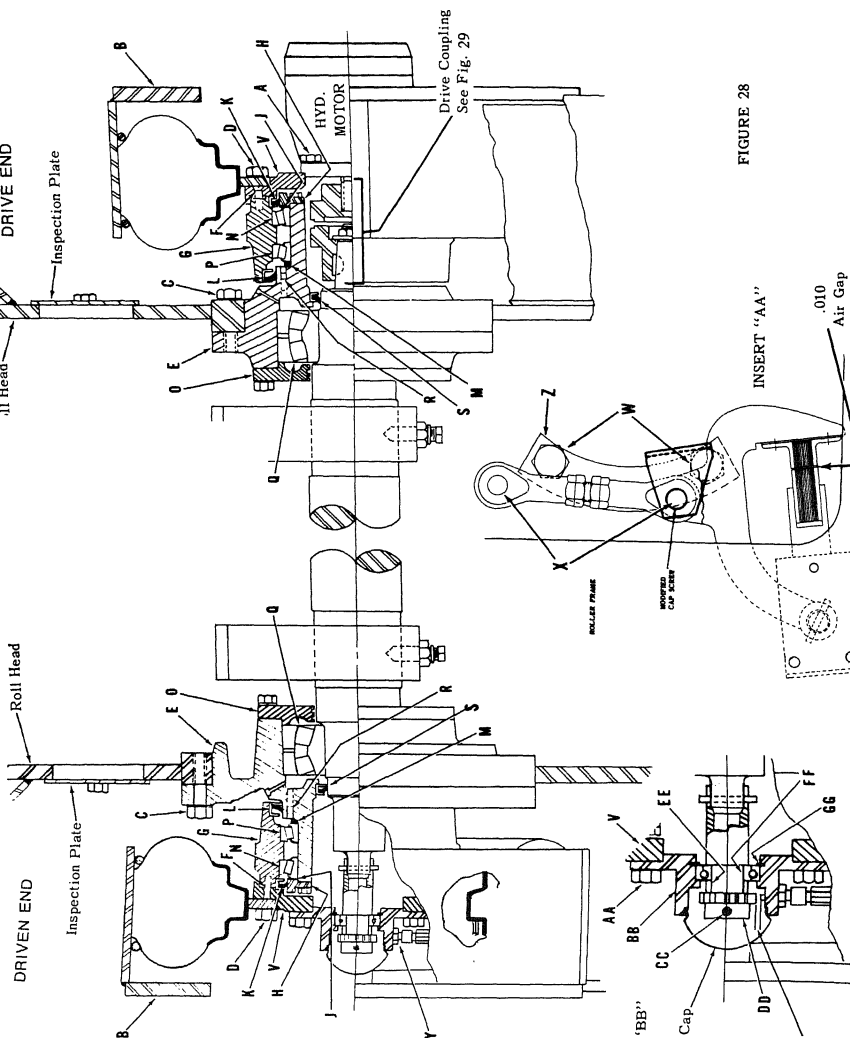

FIGURE 28
A. ROLLER AND ISOLATOR (TIRE) REMOVAL FOR ACCESS TO VIBRATOR SHAFT BEARINGS AND SEALS (Fig. 28). ALSO REFER FOLLOWING "STEP B".
B. VIBRATOR SHAFT BEARING AND SEAL REPLACEMENT (Fig. 28)
14. (Fig. 28) Remove four $\frac{3}{8}$ " x 1" flat head machine screws (F) and remove wheel flange (V) from wheel hub (G).
15. Six $\frac{3}{8}$ " x 1 $\frac{1}{4}$ " cap screws with tab locks hold the bearing carrier ring (H) to roll hub (E). Flatten tab locks and remove cap screws to remove bearing carrier ring. Also remove shims immediately behind the bearing carrier ring.
16. Remove wheel hub (G) from roll hub (E). With the wheel hub, seals (L) and (K), cup of bearing (P) and bearing (N) will be free of roll hub (E). Pull cone of bearing (P) off roll hub and remove spacer (M).
17. Seals (L) and (K) may now be removed from wheel hub, and cones of bearings (P) and (N).
18. Remove eight $\frac{1}{2}$ " x 1 $\frac{1}{2}$ " self-locking cap screws holding labyrinth retainer (O) to roll hub (E).
19. The roll hub (E) contains three $\frac{3}{8}$ " x 2" socket head dog pt. set screws (R). These are used to jack out bearing (Q) far enough so a puller can be used to remove bearing from the roll hub. Remove bearing. Return set screws into tapped holes. Remove seal (S).
Driven End - Fig. 28 and Insert "BB"
Assembly (Fig. 28). Steps 23 thru 27 are identical for both sides.